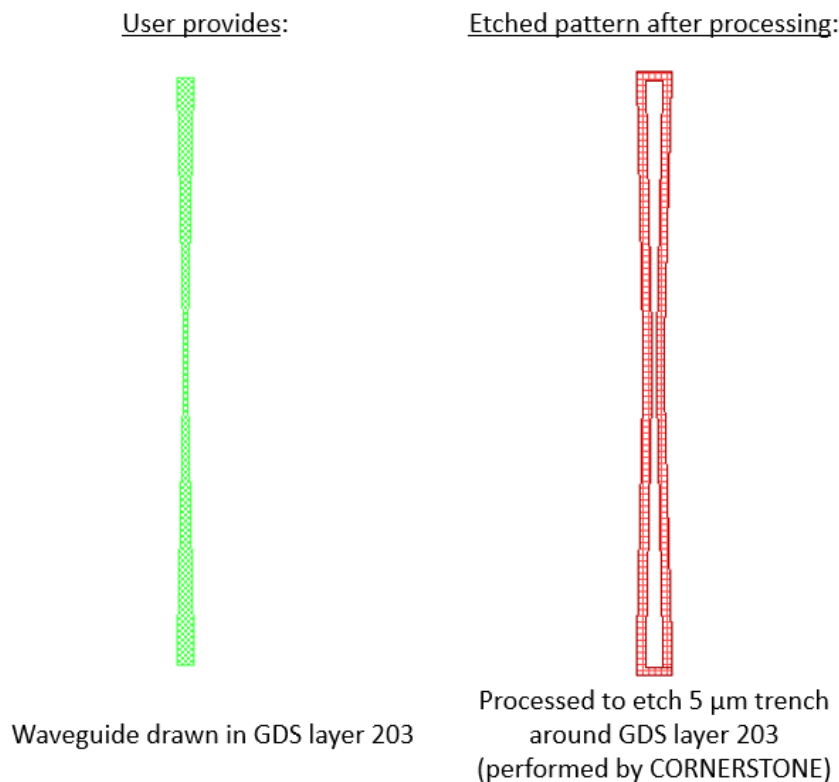

Figure 1 - Description of GDS Layer 203 processing.
- Silicon Nitride Etch 1: 200 nm full etch to BOX – GDS Layer 203 (Light field): Drawn objects on this layer will be protected from the silicon nitride etch. Users should draw the waveguides and any other features to remain following the full silicon nitride etching. During fracturing processing, this will be translated into a pattern that defines 5 μ m wide trenches on either side of the waveguides drawn in GDS layer 203 (see Figure 1).